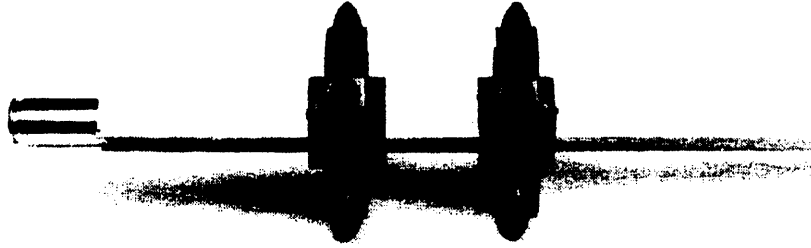

Figure 6-16a. Pin Wheel Replacement—Correct Alignment
2. Install the pin wheels on each side of the shaft. Ensure that the pins are positioned on the shaft in alignment with each other. See figures 6-16a and 6-16b.